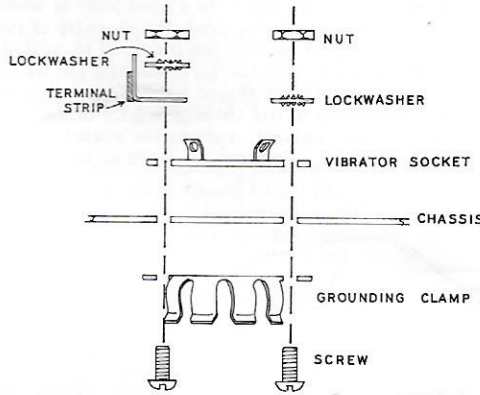

Figure 2
- () Mount the 4-pin vibrator socket and vibrator grounding clamp at B as shown in Figure 2. Use 6-32 x 3/4" BH screws and mount terminal strip E on the mounting screw nearest socket A. Note that both wafer sockets mount on the same side of the chassis, while the grounding clamp mounts on the reverse side (top). See Pictorial 1.